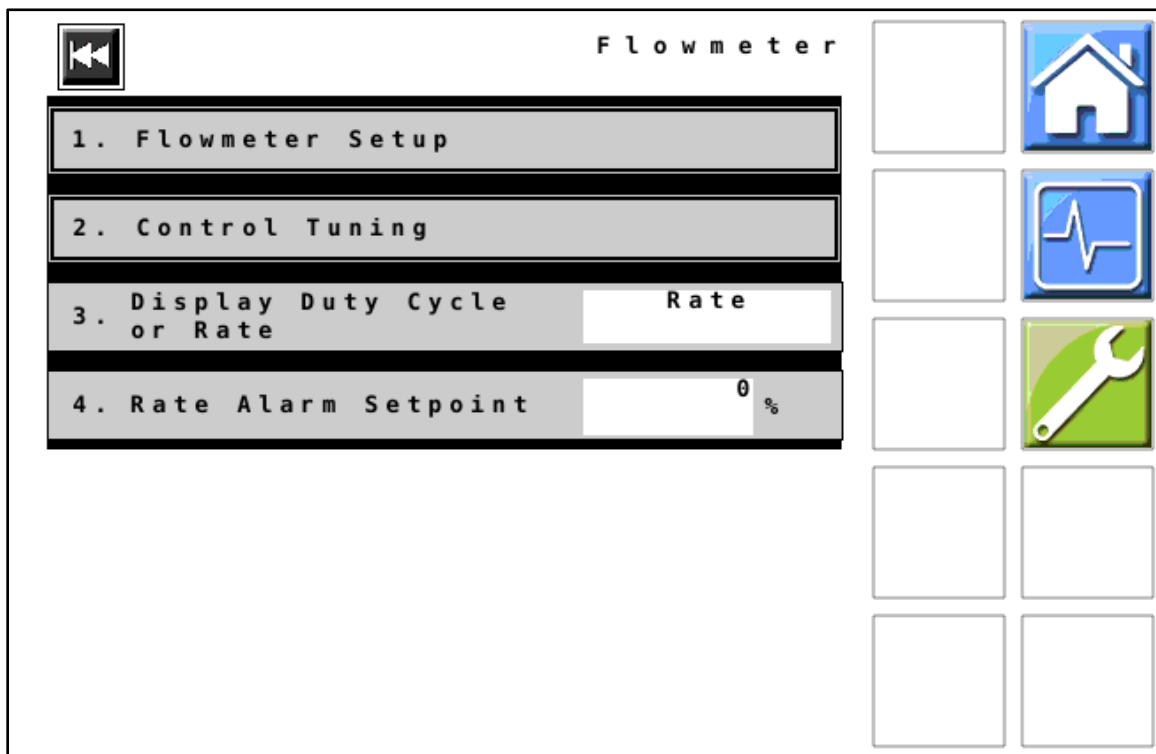

Figure 16 — Flowmeter
26. *Figure 16*: Verify that all values displayed on your unit match those shown here. Change values if necessary.